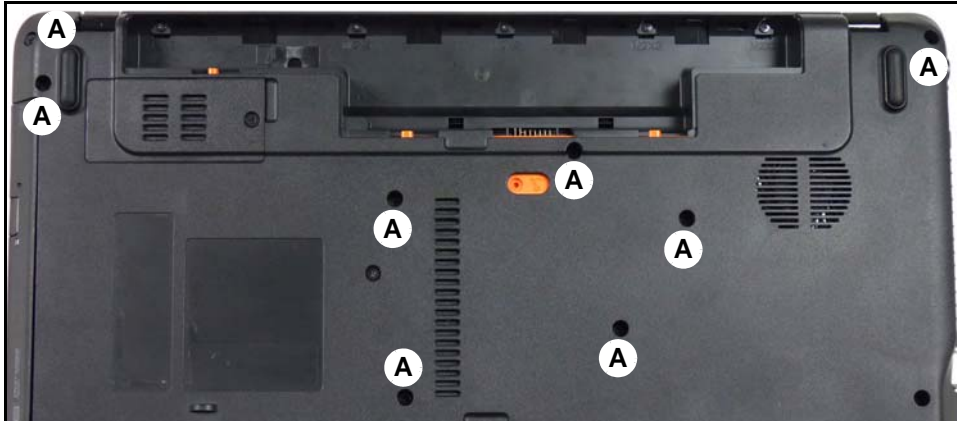

Figure 3-31. Upper Cover Screws
1. Remove eight (8) screws (A) from upper cover (Figure 3-31).
6. Install and secure eight (8) screws (A) to upper cover (Figure 3-31).